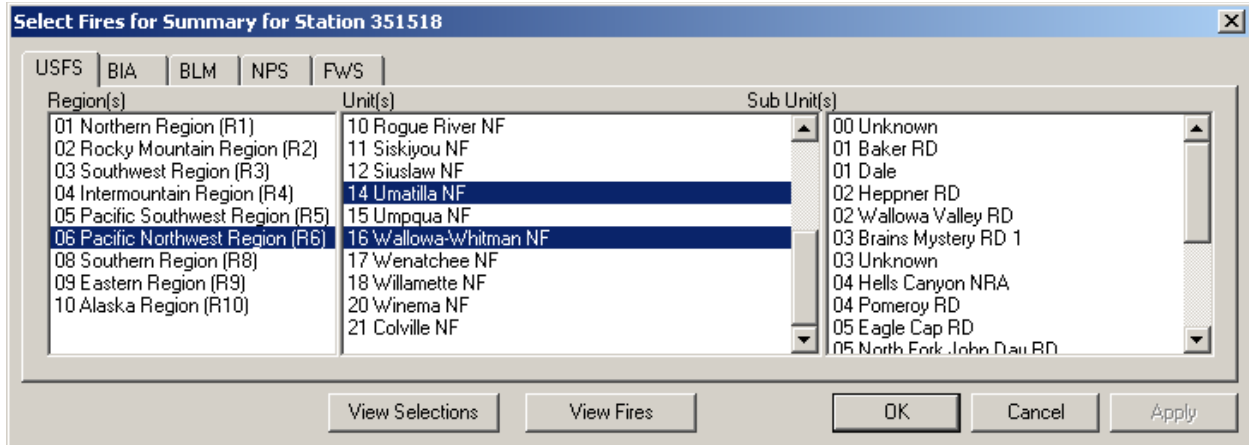

Figure 3-21—Setting the fire associations.
- a) Open the **Select Fires for Summary for Station 351518** form (**FFP menu**→ **Fires**→**Associations**, fig. 3-21).